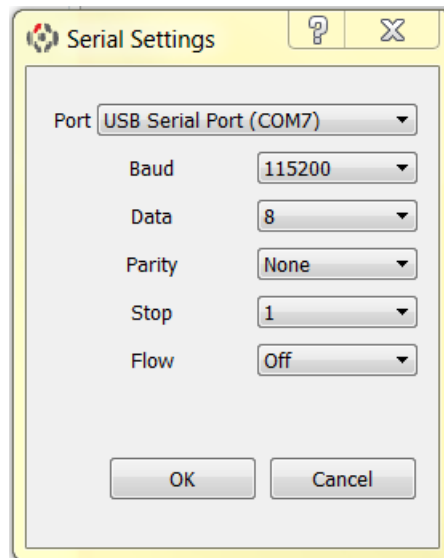

Figure 1: Serial Connection Dialog
5. You will be presented with a serial connection dialog (see Figure 1).